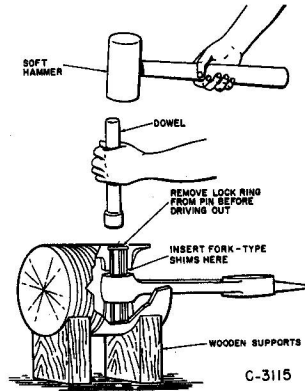

Figure 3-8. Removing a Piston Pin
(D) After the seal has been installed in the shaft end cover, the cover should be returned to its original location on the frame by sliding it over the end of the crankshaft. To avoid cutting the sealing lip, it is important that the surface of the crankshaft is free of burrs and sharp edges. As an added precaution against cutting the seal, cut a piece of .003" (.076 mm) brass shim stock to the necessary size and form it into a cone. Lubricate the surface of the cone; position it on the shaft as shown in Figure 3-8 and slide the cover and seal over the cone and into position against the frame.
(B) With the piston and connecting rod removed from the compressor, remove the lock rings at the ends of the piston pin. See Figure 3-8. With a dowel of appropriate size and a soft hammer drive out the pin. Important: To prevent distorting the piston during this operation, play between the piston pin boss and the connecting rod must be eliminated by inserting fork-type shims of the necessary thickness between the rod and the boss.